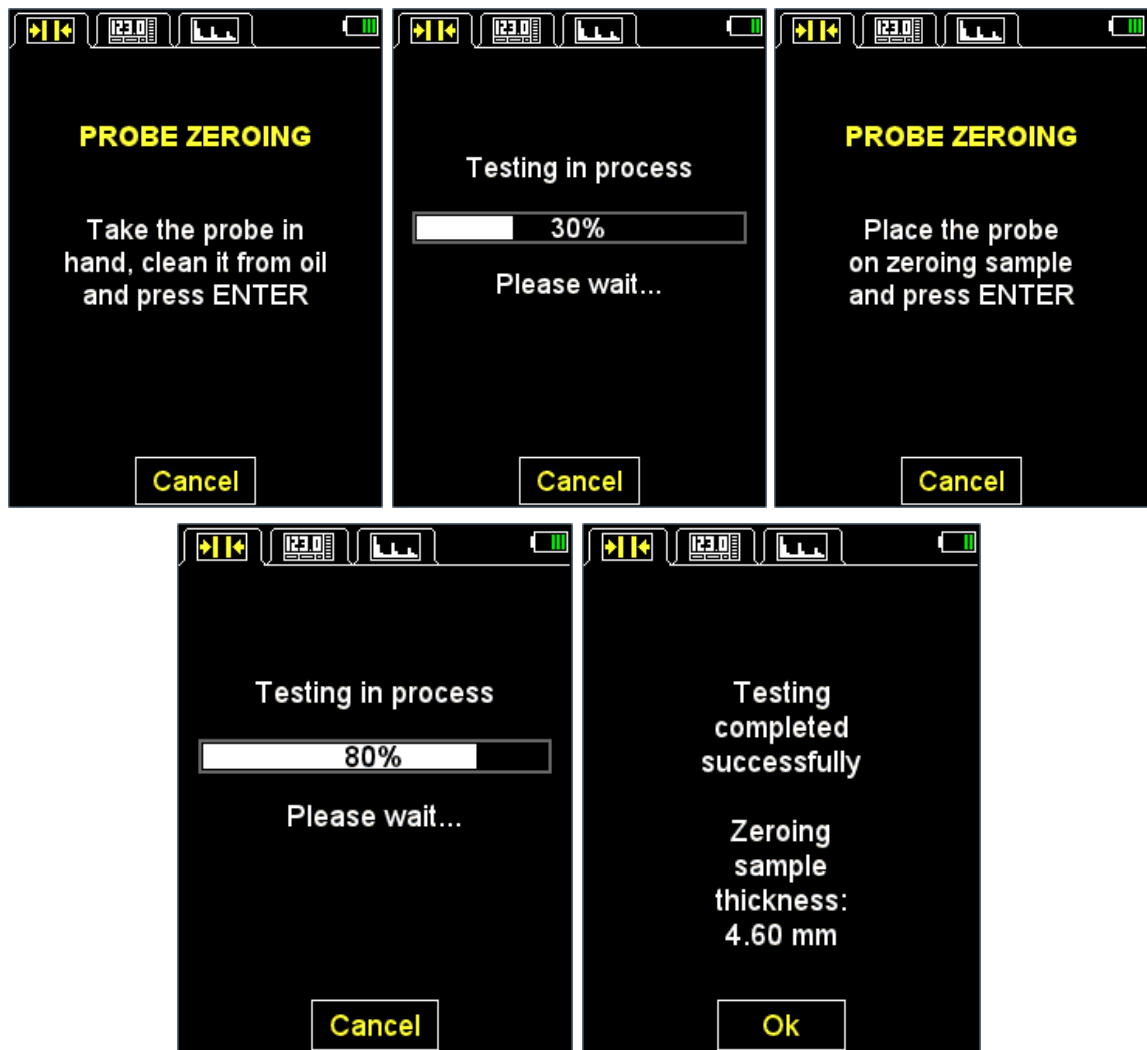

Figure 18
- Press the F2 key (OK). If the test is OK, then the instrument will enter the measurement mode, if the test failed, then the instrument will return to the main window of the SETTINGS mode.
- Appearance of the instrument’s displays during successful adjustment is presented on Figure 18.